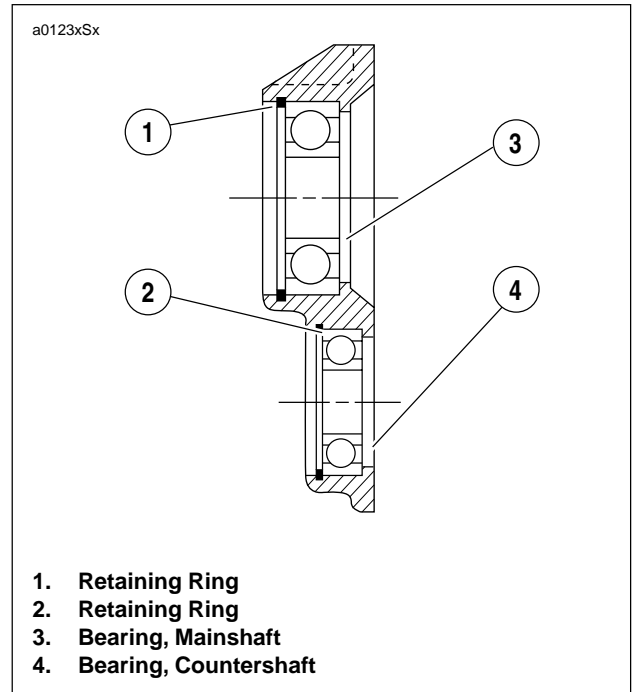

Figure 6-53. Ball Bearing Assembly
5. See *Figure 6-53*. If bearing replacement is required, remove retaining rings (1, 2). Press out bearings (3, 4) from the inside of the crankcase.